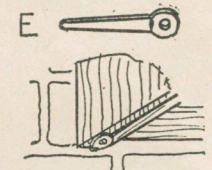

Fig. 3—The wall cleat
The cote should be hung up securely. A good method is to use wall clasps, iron ones, as pictured at (E) in Fig. 3. These can be bought at most hardware stores. They are driven in the wall, be-
tween the bricks. Drive one pair at about the required height, and rest the cote upon them, as in detail, Fig. 3. The second pair can be driven in higher up, and screwed to the sides of the cote.